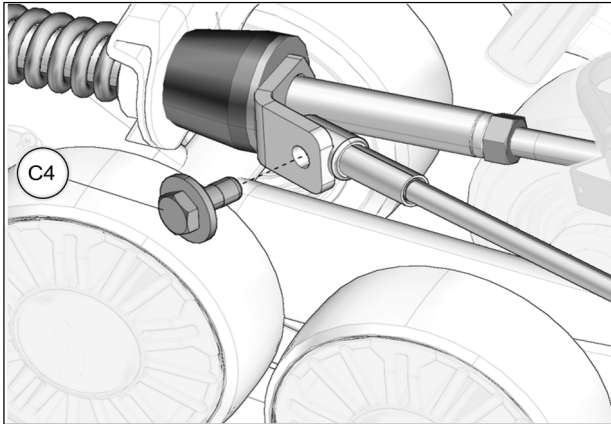

Fig. 20
13. Reverse steering wheel a little to be able to bolt support plate and cable together. Tighten provided bolt (C4) to 35 N•m [24 lb•ft]. See Fig. 20. Repeat steps on right side.